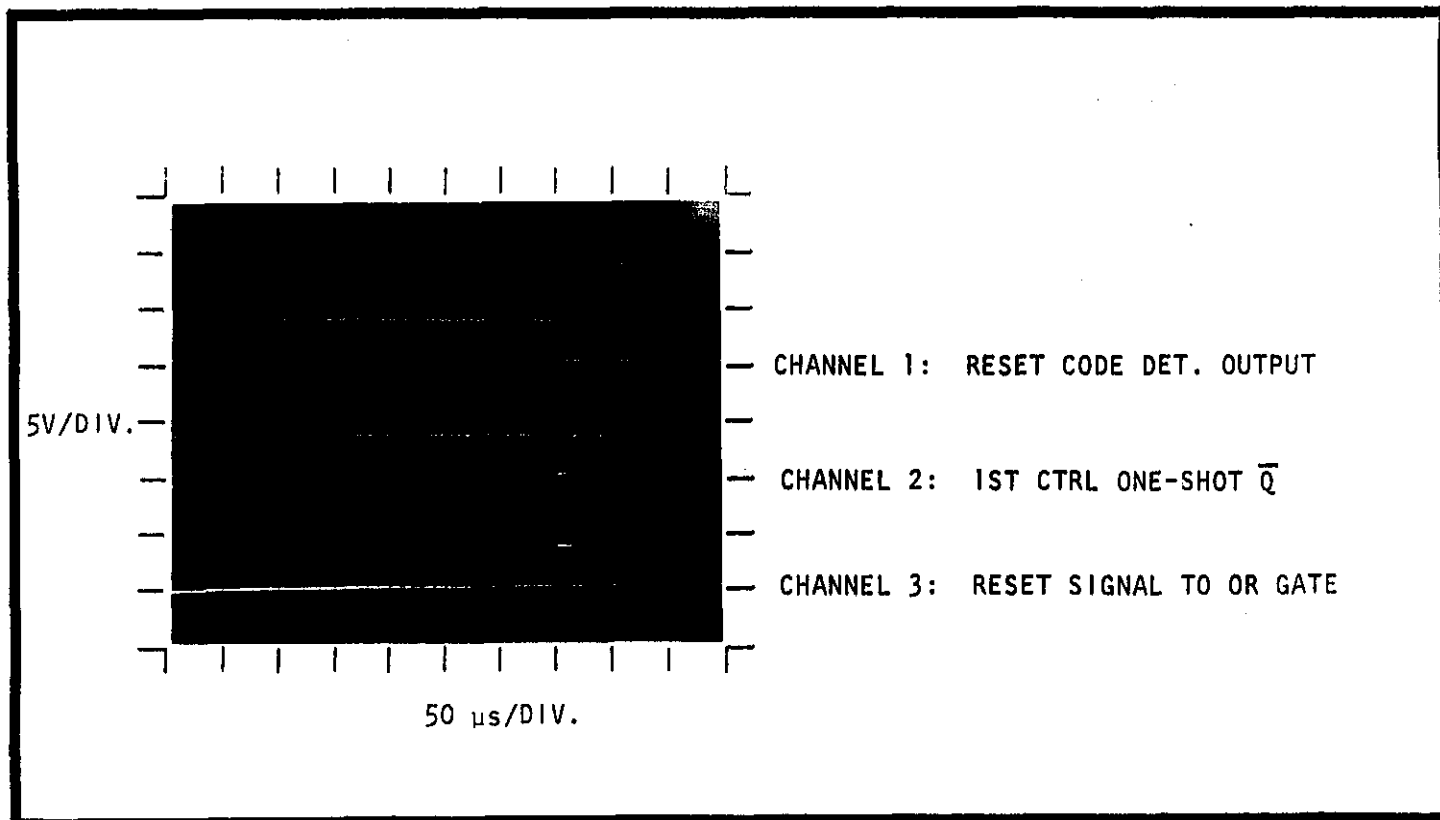

FIGURE 19. Trace For Test #14.
6. Verify traces shown in Figure 19.